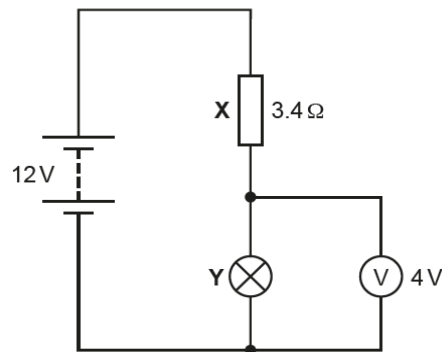

Fig. 1
- 1 (a) A student uses the circuit shown in Fig. 1 to investigate the characteristics of a filament bulb.
- (b)\* A new working **identical** bulb is put in the circuit in Fig. 1. The resistor **X** is changed to one with a resistance of  $6.9\Omega$ . A student calculates that the voltage across resistor **X** will now be 6.0V.